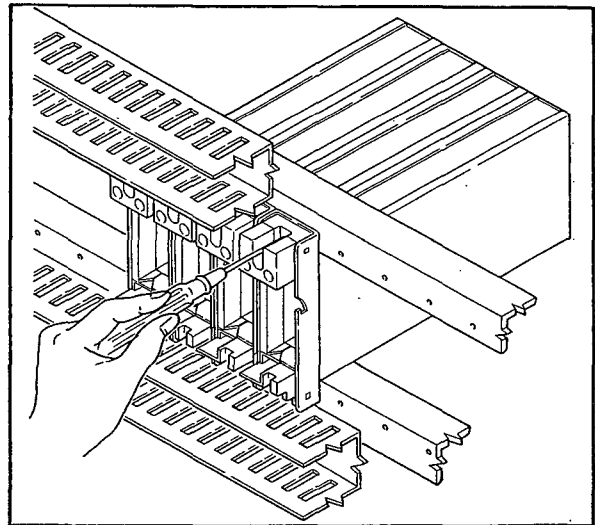

Figure 3-3. Installing the Rack Case.
- (1) Insert the rack case into the rack with the air connections above. Match the two mounting holes (upper and lower portions of the case) to the rack mounting holes on the support angle. Secure the case with setscrews of 5 mm × 0.8 (M5 × 0.8). See Figure 3-3.